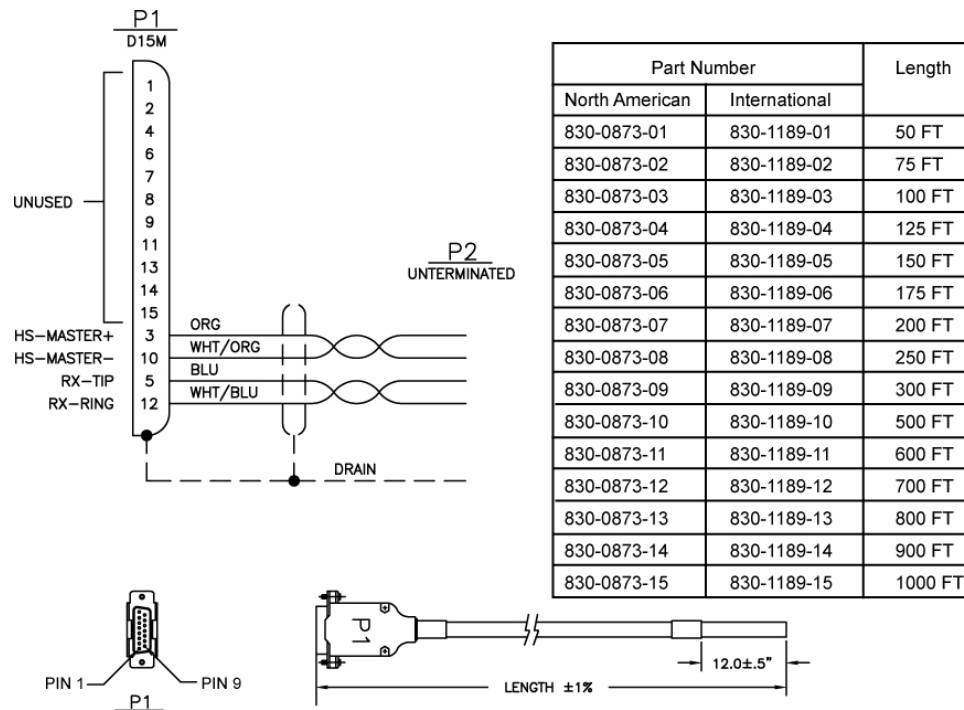

Figure 100: Wire Coding of High-Speed Master and Composite Clock Cable (P/N 830-0873-xx or P/N 830-1189-xx)
- b) Cut back any unused wires as shown in Figure 100: Wire Coding of High-Speed Master and Composite Clock Cable \(P/N 830-0873-xx or P/N 830-1189-xx\) .
- b) Wire-wrap to the appropriate IDLE (primary or secondary) clock connections on the customer clock source. Refer to the cable wire coding (P/N 830-0873-xx or P/N 830-1189-xx) shown in Figure 100: Wire Coding of High-Speed Master and Composite Clock Cable \(P/N 830-0873-xx or P/N 830-1189-xx\) for connection information.
- Cut back any unused wires as shown in Figure 100: Wire Coding of High-Speed Master and Composite Clock Cable \(P/N 830-0873-xx or P/N 830-1189-xx\).